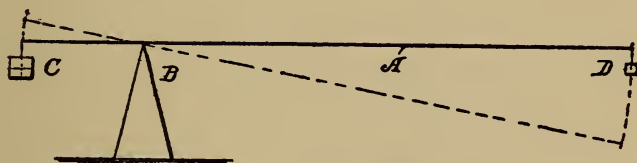

Fig. 126.
In Fig. 126 is a lever (A), resting on a fulcrum (B), the fulcrum being so placed that the lever is four times longer on one side than on the other. A weight (C) of 4 pounds is placed on the short end